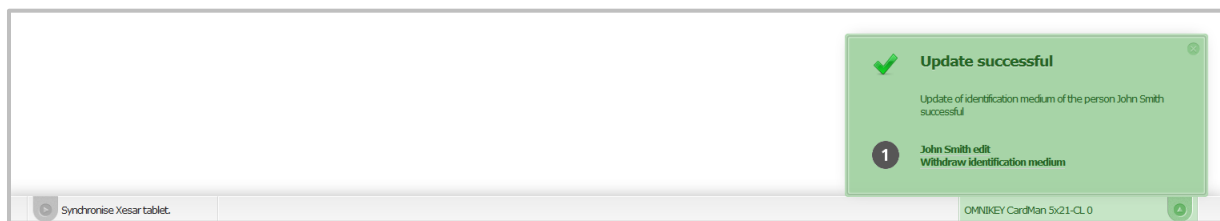

Figure 113: Withdrawing access media
- Select ***Withdraw access medium*** ❶ (Figure 113: Withdrawing access media).